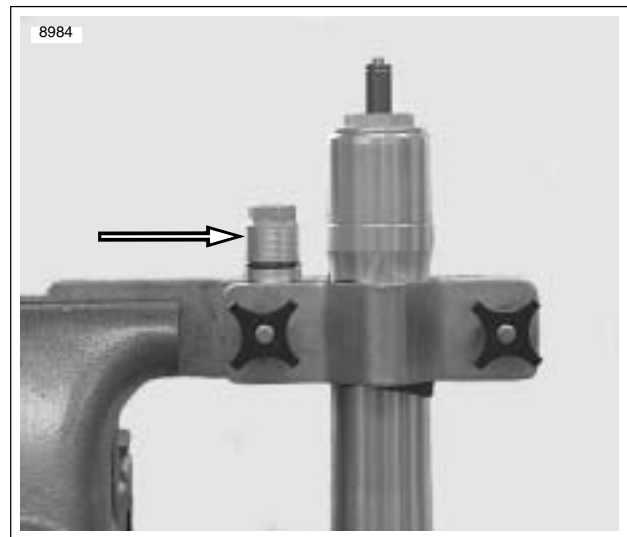

Figure 2-65. Removing Preload Adjuster
4. See **Figure 2-65**. Remove preload adjuster by turning counterclockwise.